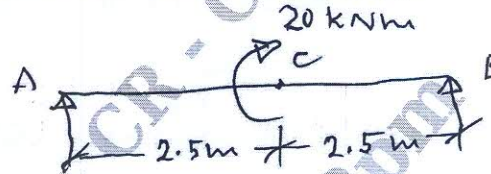

Fig.Q5(b)
- b. Draw the SFD and BMD for the beam shown in Fig.Q5(b).